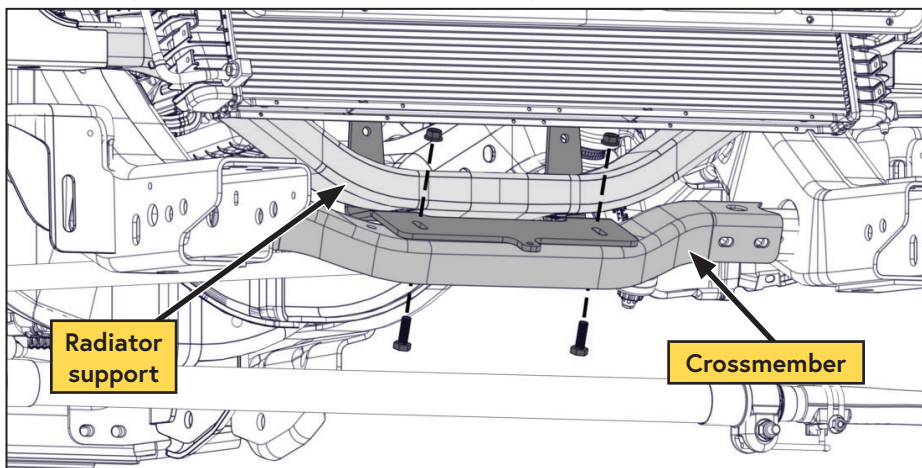

Figure 10 — Install cooler
- ☐ Using the supplied fasteners, install the cooler bracket onto the black front crossmember, below the body coloured radiator support (leave the fasteners finger tight to allow for adjustment later) (Figure 10).